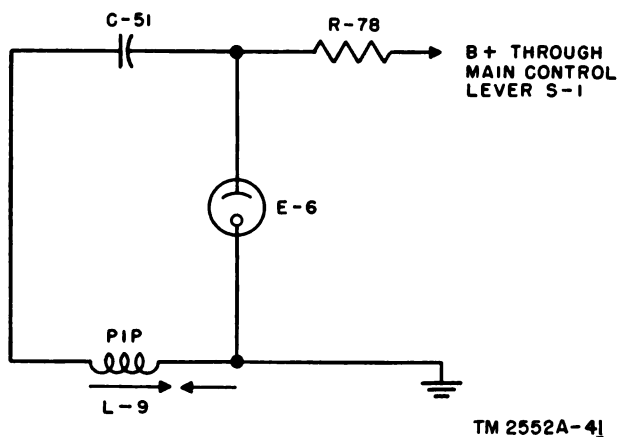

Figure 40. Pip circuit, simplified schematic diagram.
a. Identification of the signals would be practically impossible were it not for the tone or pip signal recorded on the steel tape during the recording process. This identifying signal is generated by a 250 cps (cycles per second) relaxation oscillator consisting of resistor R78, capacitor C51, and glow tube E6, as shown in the simplified schematic (fig. 40). The *pip* head (mounted on the same base with the No. 2 erase head) is placed between the recorder-reproducer heads Nos. 2 and 3 and records the continuous identifying tone whenever the main control lever (S1) is in the REC position. On playback, the recorded signals appear in the scope and headset in the following sequence: pip, 3, 1, 2; pip, 3, 1, 2; etc. Since the pip head is mounted slightly in advance of the No. 2 erase head, the erase head clears everything off the tape except the small portion between the heads.